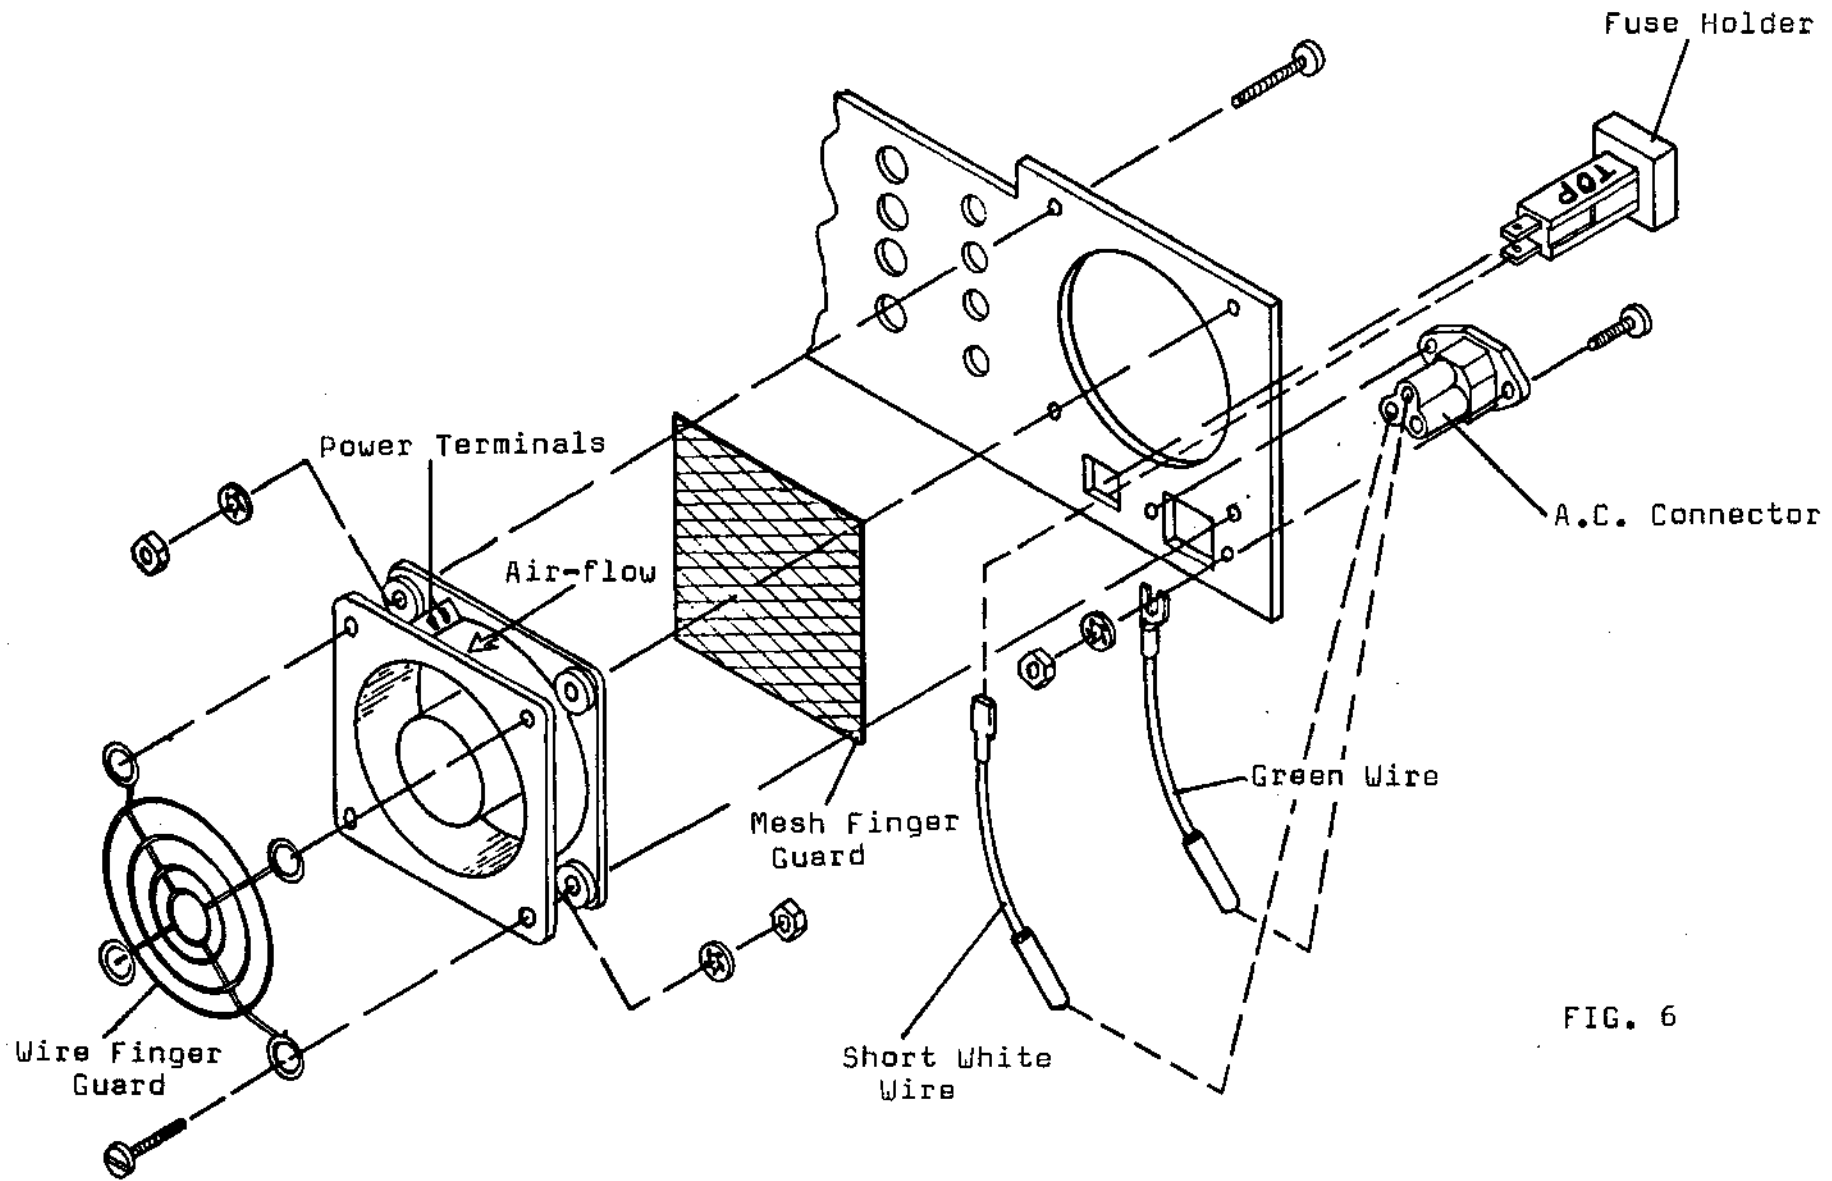

FIG. 6
- ( ) Locate the fan. Observe the location of the power terminals and the air-flow arrow. See Fig. 6.